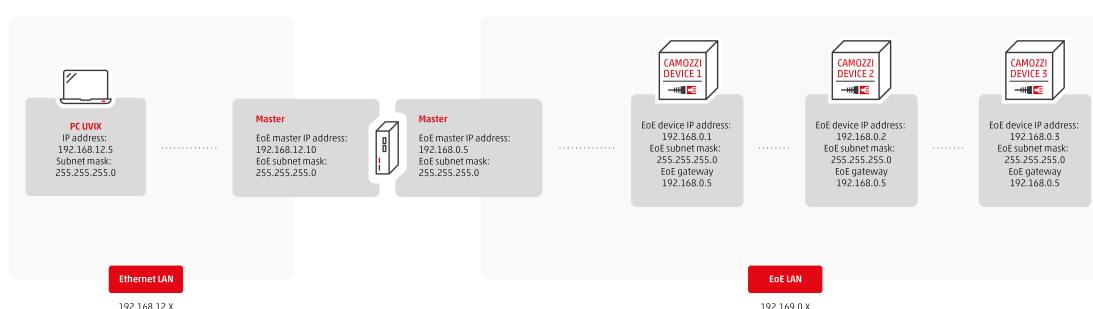

Figure 2.6: External EoE Communication via IP Routing
- **Direct EoE Access via EtherCAT Switch Port:** in this case the UVIX is installed on a dedicated PC inserted within the EtherCAT network, figure 2.6.
- **External EoE Communication via IP Routing:** in this case the PC with UVIX installed is in a network (in the example indicated as Ethernet LAN) different from the EtherCAT network (in the example indicated as EoE LAN), figure 2.6.